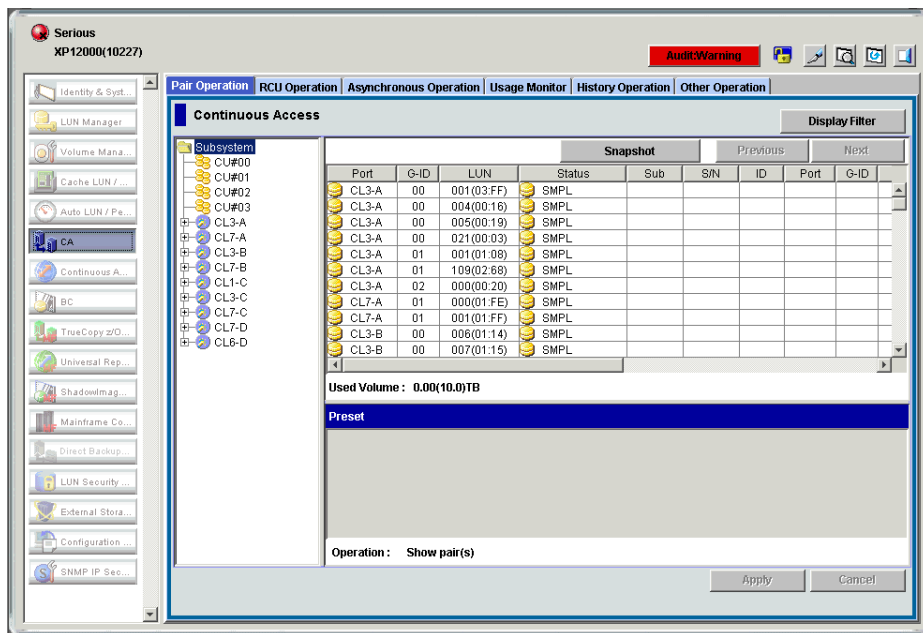

Figure 288 CA main pane
5. Click **CA** to start CA. The CA main pane appears (Figure 288).